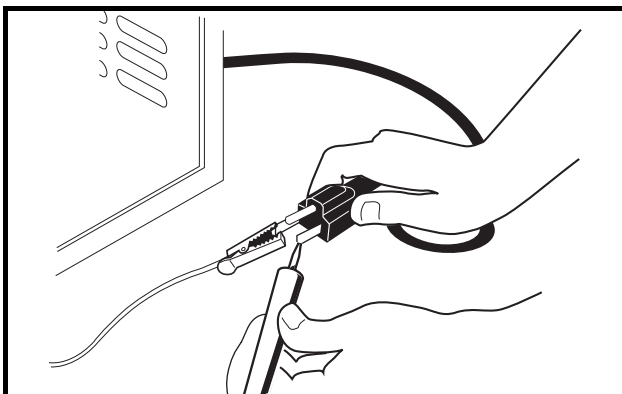

Figure 7-17 AC Cord Test
- 5.3. With relay bypassed, there should be continuity across the AC cord blades (**Figure 7-17, Page 7-19**).